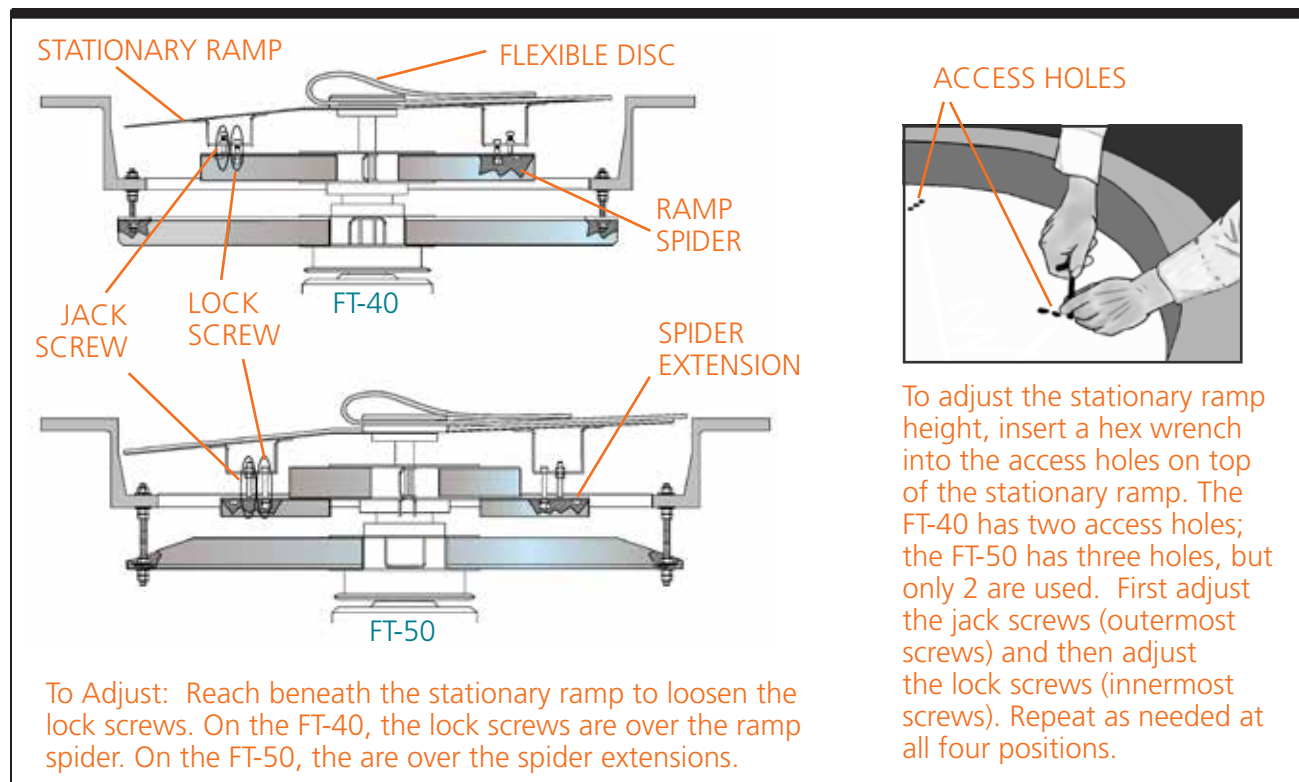

Figure 5-6. Adjusting Stationary Ramp Height
Step 2—Loosen Screws. Reach beneath the stationary ramp to loosen the jam nuts (refer to Figure 5-6 on the following page.) From above, through the access holes in the top of the stationary ramp, loosen all four jack screws and corresponding lock screws. Adjust all four jack screws as needed.